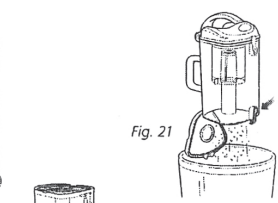

Fig. 21
- Hold the dust cup over a trash receptacle and press the bottom door release button. (Fig. 21) Tap gently to empty contents. Press the door shut again until it clicks.